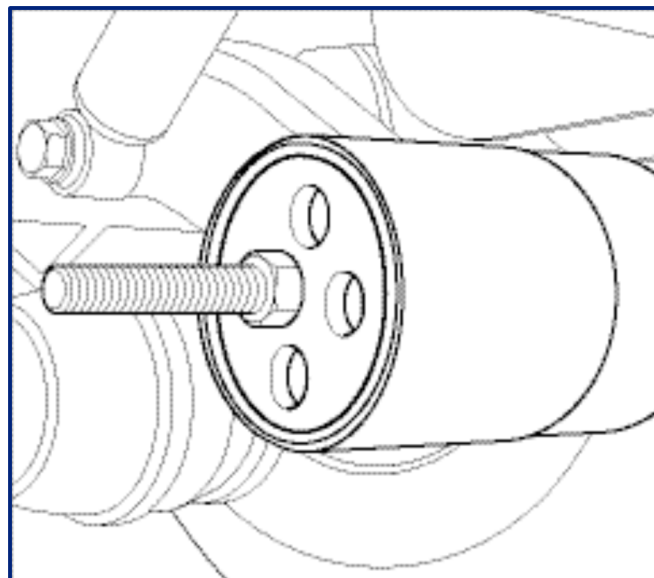

Fig 27
3. Fit bush tool to trailing arm as shown (Fig 27).